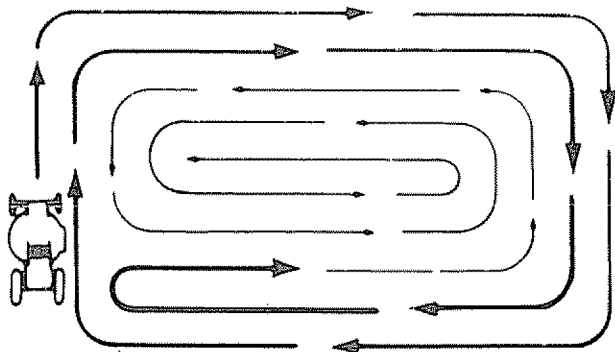

FIGURE 17
- c When mowing large areas (Fig. 17), start by turning to the right so that the clippings will discharge away from shrubs, fences, driveways, etc. After one or two rounds, mow in the opposite direction making left hand turns until finished.